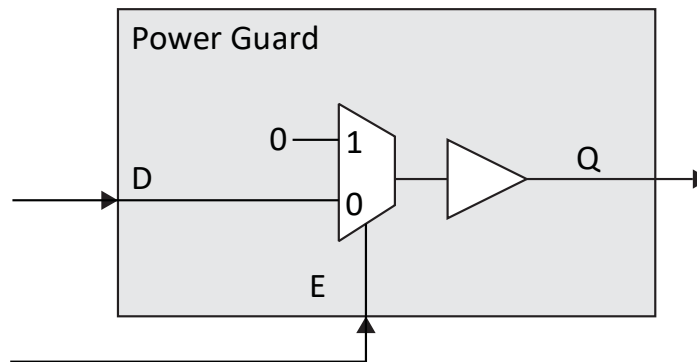
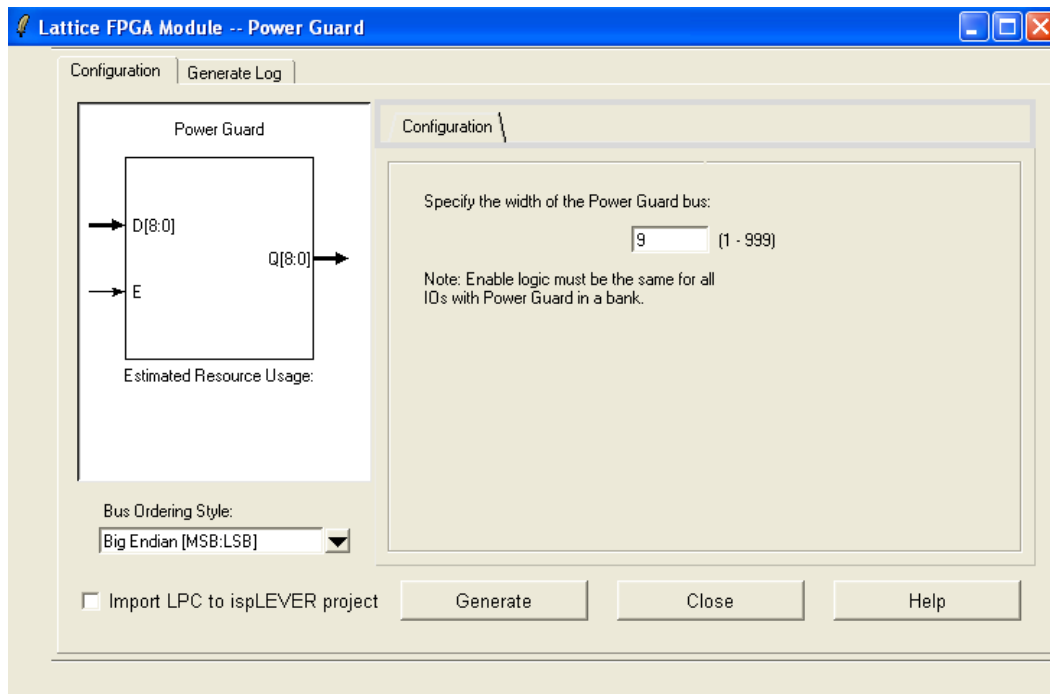

Figure 7.1. Power Guard Primitive
Figure 7.2. IPexpress Power Guard
The Power Guard (PG) feature minimizes dynamic power consumption on routing by gating signals at the input pin. To prevent this loss, especially on large fan-out or heavily loaded nets like clocks, inputs can be “Power Guarded”. Power Guard prevents logic from getting on nets using an active high control signal. The Power Guard primitive component, as shown in Figure 7.1, can be included in your clock or data paths. For large buses, IPexpress can be used as shown in Figure 7.2.